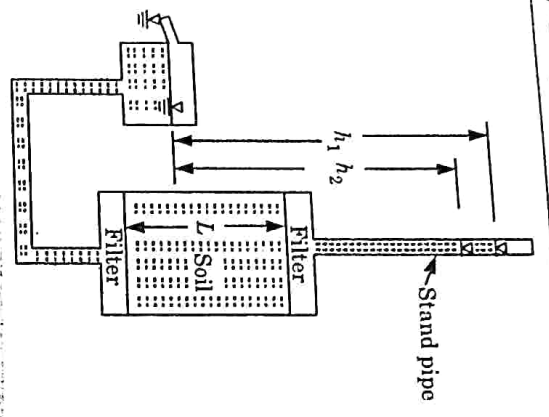

Fig. 2.8.2. Arrangement for variable-head permeability test
- ii. A typical set-up for falling head permeability test is shown in Fig. 2.8.2. The water level in the stand pipe is observed from time to time. Let A be the area of soil sample, a the area of stand pipe and L the length of soil sample.